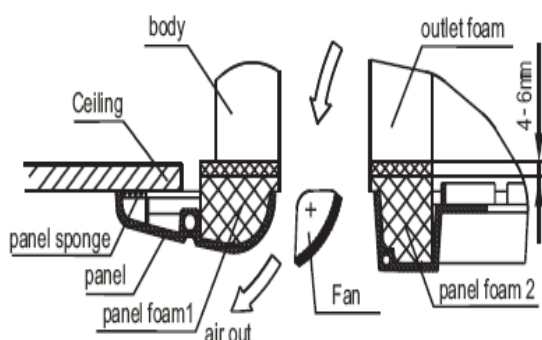

Fig.4-13
- Keep fastening the screws under the panel hooks, until the thickness of the sponge between the body and the panel's outlet has been reduced to about 4~6mm. The edge of the panel should contact with the ceiling well. *(Refer to Fig.4-13)*